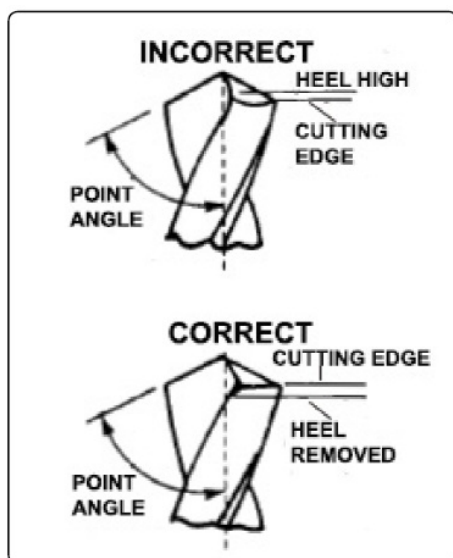

fig.4
5.3.2. Some drills may sharpen with a heel behind the cutting edges, fig.4. Remove this free hand so that the drill will cut freely.